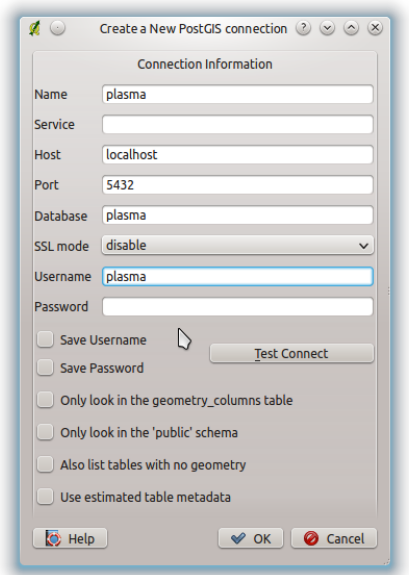

Figure 5.10: Connect to *PostGis*.
- Connect *QGIS* to *PostGis* (see Figure 5.10)